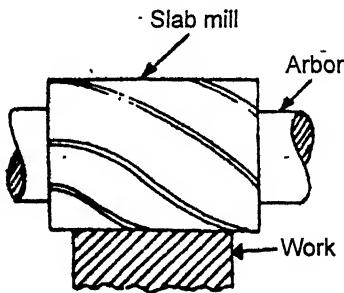

Fig. 10.48. Plain or slab milling.
**1. Plain or slab milling.** Plain milling is used to *machine flat and horizontal surfaces* (Fig. 10.48). Here plain milling cutter is used, which is held in the arbor and rotated. The table is moved upwards to give the required depth of cut.